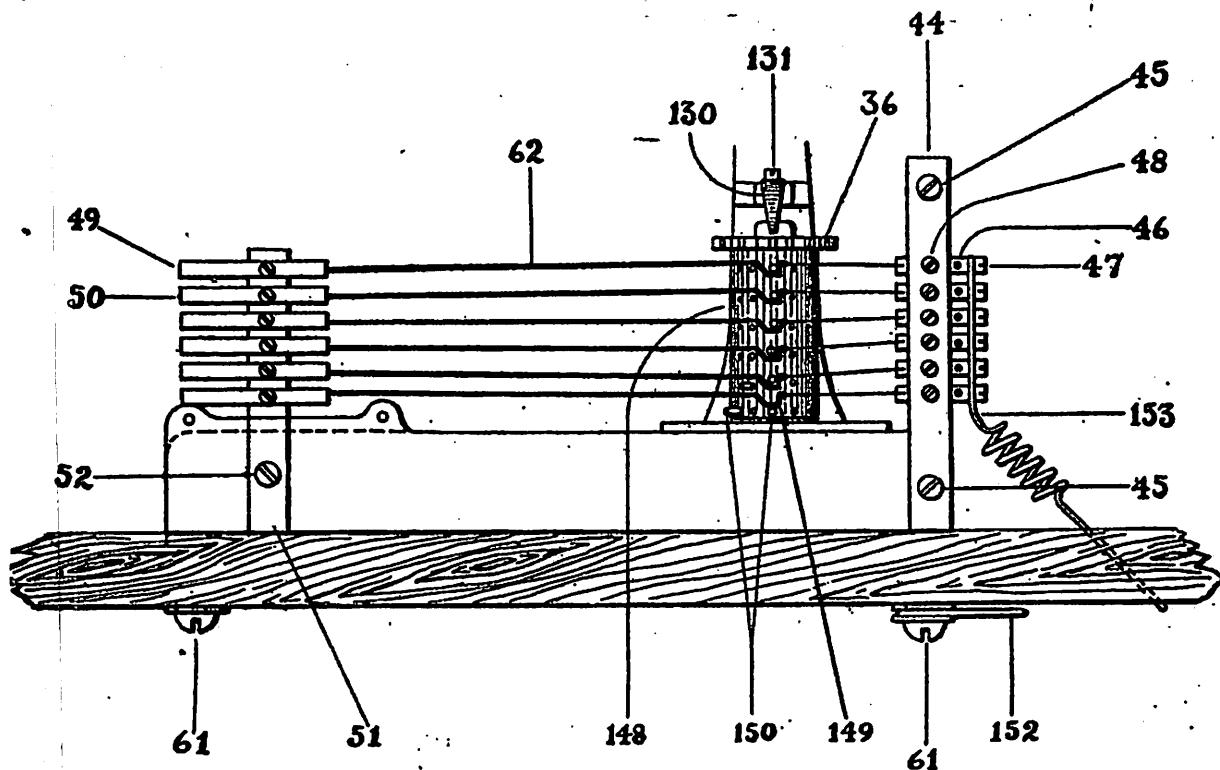
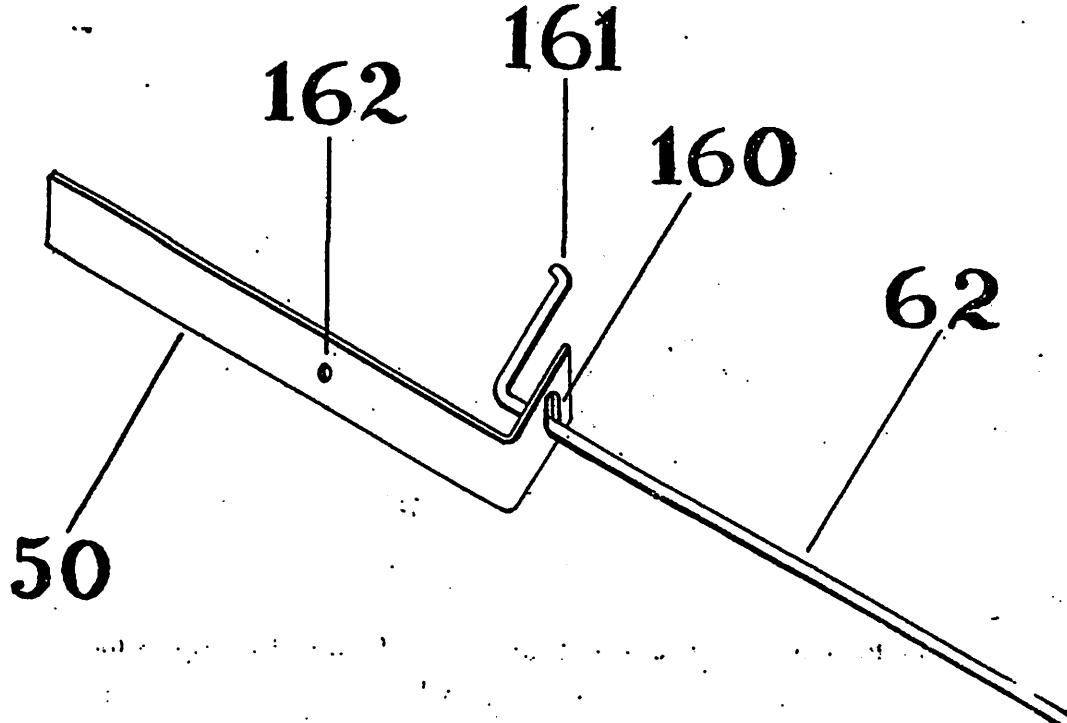

Fig. 5
Fig. 6
This switch is used on class B clocks and differs from the Automatic Cut-Out in the substitution of the insulator drum 148, Fig. 5, for the metal switch flange 37, Figs. 1 and 2. It is set as follows:
3. By inserting the switch drum pins in the proper holes the different programs can be put in operation on any desired days or nights. Referring to Fig. 5 it will be noticed that for each commutator 62 there is provided a circle of 14 holes in switch drum 148. The lower commutator makes contact with contact pins in program circle No. 1—the largest circle, and if this program is to be in operation on say the five days of the week, Monday to Friday inclusive, simply place drum pins in the lower circle of holes in switch drum directly under "Mo", "Tu", "We", "Th", and "Fr". If program No. 2 is used on the five nights from Monday to Friday inclusive, place the drum pins in the next lower circle of holes in drum directly under the "Ns" following "Mo", "Tu", "We", "Th", and "Fr". If program No. 3 is to be in operation on Saturday simply place the switch pin in hole in third circle from bottom of drum directly under "Sa" and so on. Before inserting the drum pins turn drum as instructed above until the holes in which pins are to be placed stands in front, then press pins home, using great care not to bend or injure in any way the commutators. After having set the pins, set the switch as instructed above.
1. Place finger on Front edge of index ratchet wheel which in the  $2\frac{1}{4}$  minute clock is at lower end of switch drum, 148, Fig. 5, instead of upper end, and turn from left to right, until the index of the day or evening on which you are setting it stands at the pointer. If you set it Monday between 6.00 a. m. and noon, set to "Mo" if between noon and 6.00 p. m. Monday set to the "PM" following this "Mo" and so on.
Fig. 6, under sufficient tension to make good contact with contact pins in dial, while on Class B. clocks, as shown in Fig. 5, only the commutators in actual service are held in upper part of slot 160 by pins 150 in switch drum 148, Fig. 5. It is plain that the commutators can be adjusted to make proper contact with pins in dial by means of the adjuster 50.